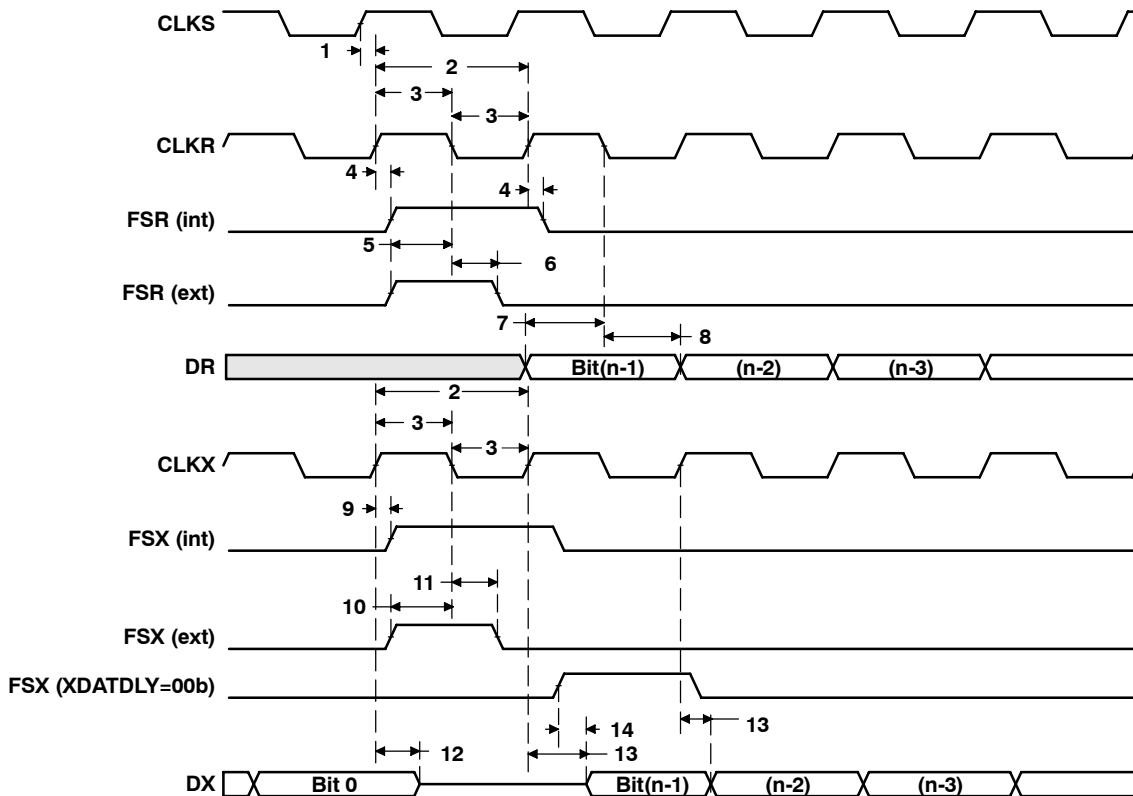

Figure 48. McBSP Timings
**timing requirements for McBSP†‡ (see Figure 48)**
switching characteristics over recommended operating conditions for McBSP†‡ (see Figure 48)